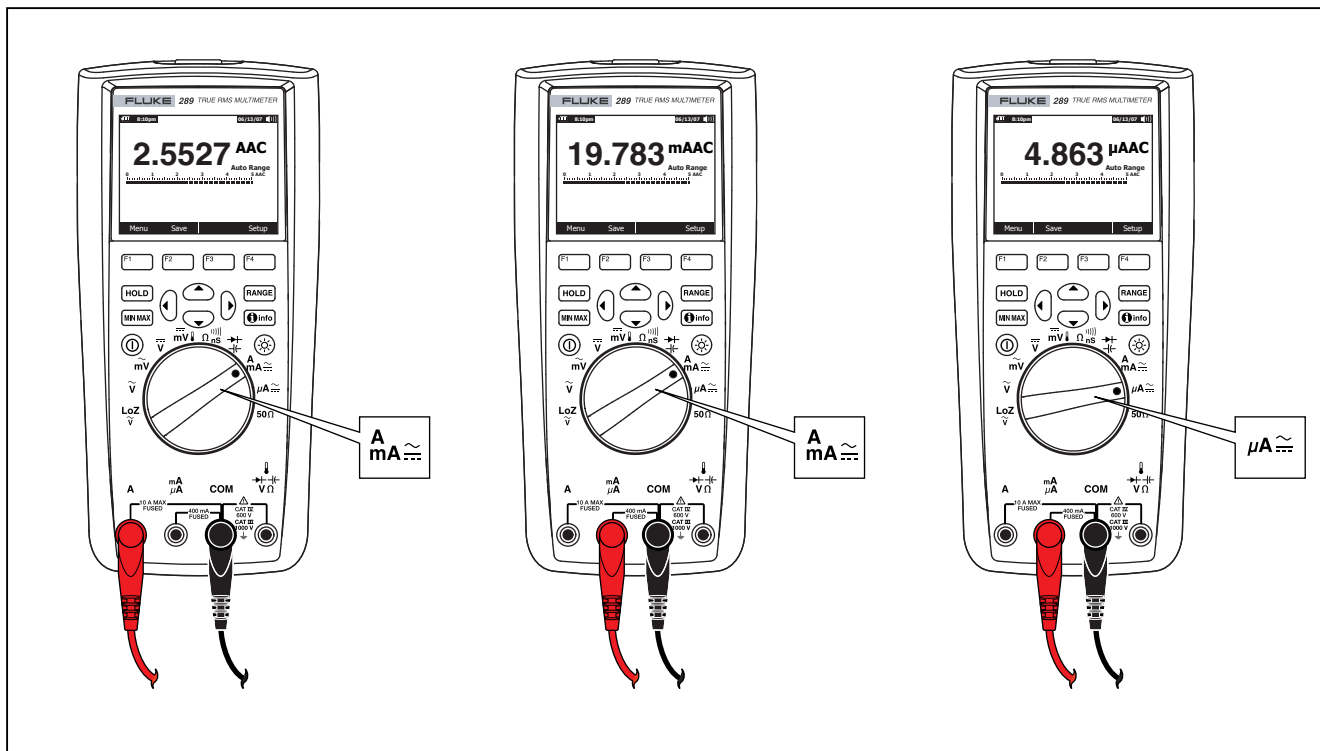

Figure 21. Current Measurement Setup
3. If you are using the A terminal, set the rotary switch to A_{mA} . If you are using the mA/μA terminal, set the rotary switch to μA for currents below 5000 μA (5 mA), or mA for currents above 5000 μA. See Figure 21 for test lead connections and function selection. Refer to the "Input Alert Feature" section for information on the alerts the Meter uses when leads are not used correctly for current measurements.